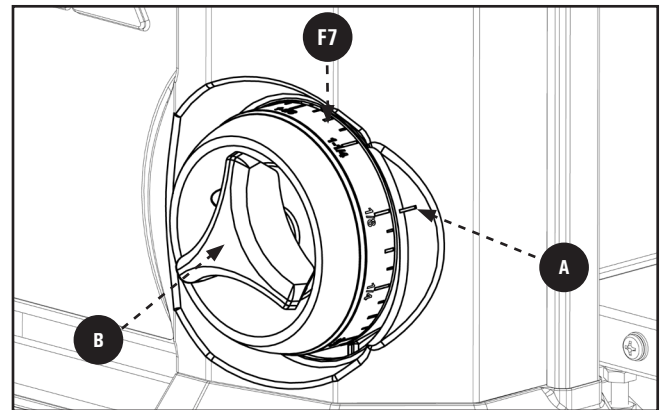

FIGURE 17
Your planer is equipped with a depth stop dial for repetitive planing, as shown in Figure 17. Any thickness between 1/8 inch and 1 1/4 inch can be selected using the scale on the depth stop. Detents are provided at 1/8 inch, 1/4 inch, 1/2 inch, 3/4 inch, 1 inch, and 1 1/4 inch.
3. Turn the dial **F7** to the desired thickness setting so that it aligns with the indicator line **A**, as shown in Figure 17.
4. Lock the gauge in place by turning the locking knob **B** clockwise, as shown in Figure 17.